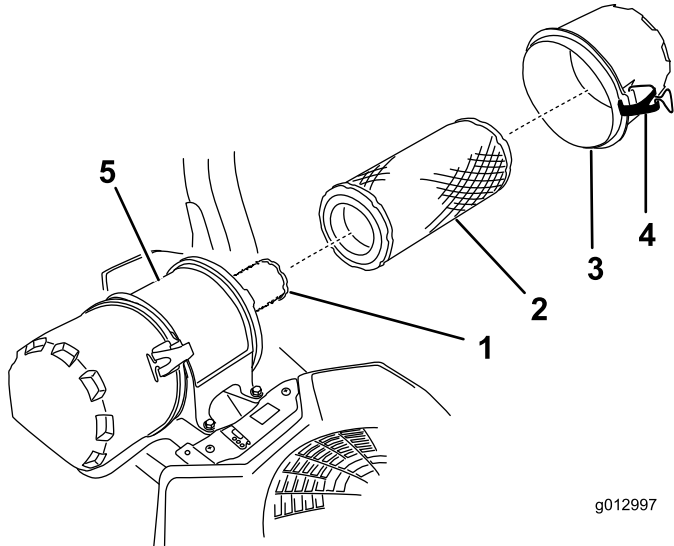

Figure 44
6. Release the latches on the air cleaner and pull the air-cleaner cover off the air-cleaner body (Figure 44).
8. Gently slide the primary filter out of the air-cleaner body (Figure 44).
2. If the inner filter is being replaced, carefully slide it into the filter body (Figure 44).
3. Carefully slide the primary filter over the inner filter (Figure 44).
4. Install the air-cleaner cover and secure the latches (Figure 44).